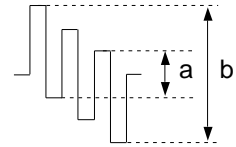

fig.6
4. Defined as $V_{LIN} = b / a$; see fig.6